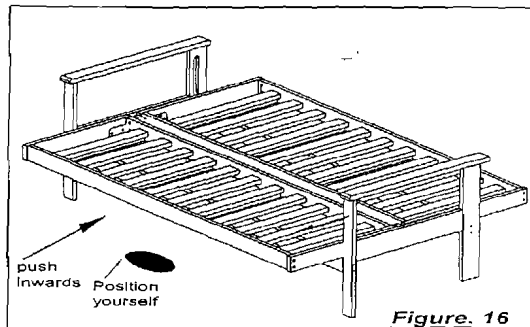
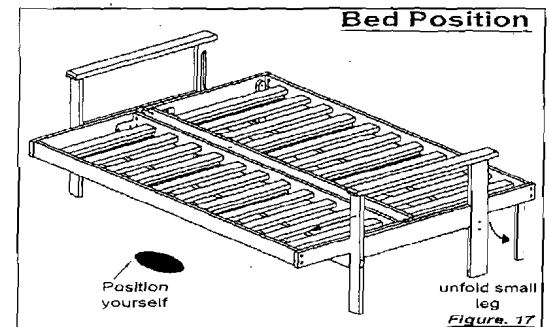

Figure 16
Figure 17
5. Push inwards to lock the bed position. (figure 16). If you have queen size frame, unfold the small legs at the back deck. (figure 17).